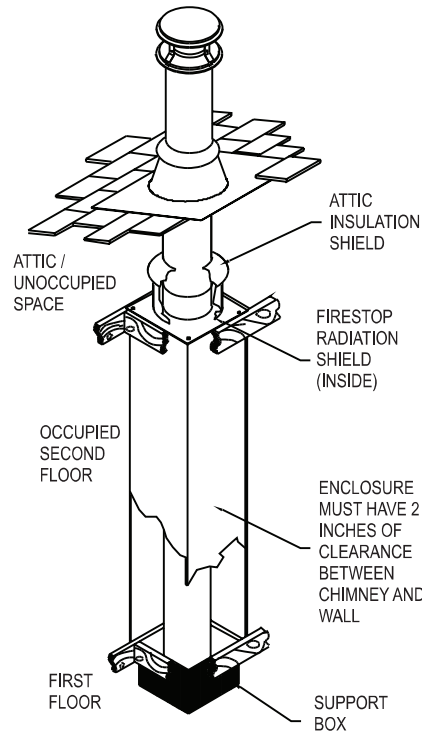

Figure 2
**Through Rooms:** Interior chimneys shall be enclosed where they extend through closets, storage areas, occupied spaces, or any place the surface of the chimney could be contacted by persons or combustible materials. Maintain at least a 2-inches of clearance between the outer wall of the chimney and the enclosure (**Fig.2**).